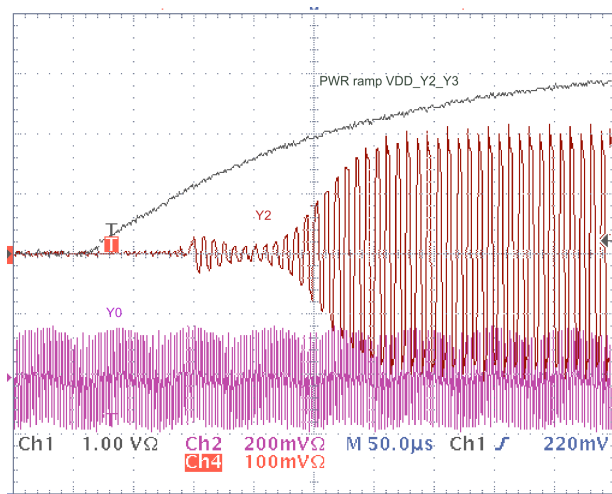

Figure 58. Sequencing the Output Turnon Through Sequencing the Output Supplies Output Y2 Powers Up While Output Y0 is Already Running
2. **Output Power supply domain control:** An even easier scheme might be to connect the clock output power supply VDD\_Yx to the corresponding DSP input clock supply domain. In this case, the CDCM6208 output will remain disabled until the DSP rails ramps up as well. Figure 58 shows the turnon behavior.